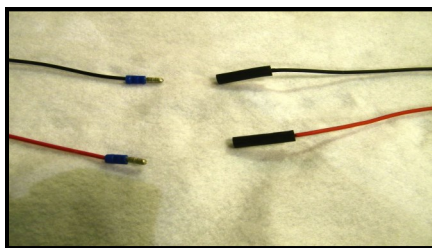

Fig. 5
- D. Route both red and black wires under the vehicle toward the battery compartment area, which is located on the right side under the rear seat. Per fig. 5, crimp male bullet connectors to the end of the harness and attach the last accessory harness, which already has female bullet connector installed. Continue this harness along the underside of the vehicle until it reaches the battery compartment.